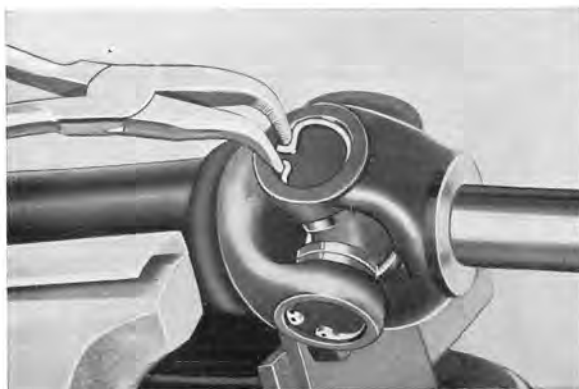

Fig. 4-130. Removing snap ring
1. Remove the snap rings securing the needle bearings in the yokes, see Fig. 4-130.